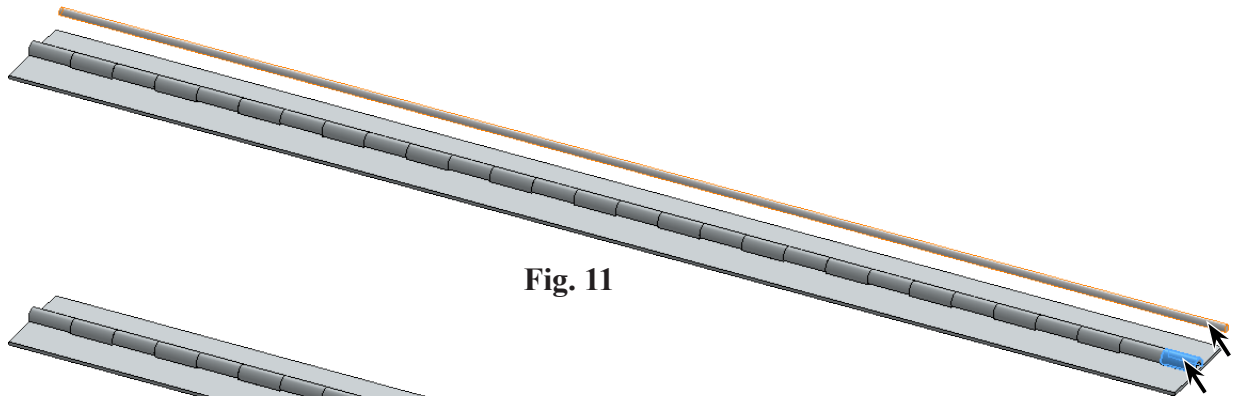

Fig. 11
Step 5. Click **cylindrical face of Hinge Pin** and **cylindrical face of hem on a Hinge**, Fig. 11.